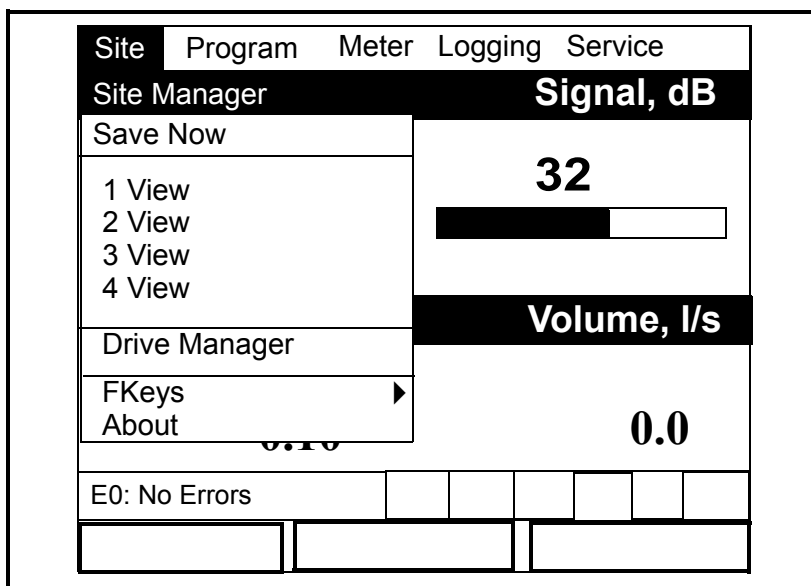

Figure 4-1: The Site Menu
2. With the *Site Menu* highlighted, press [ENTER] and a screen similar to Figure 4-1 below appears.
- From the *Site Menu* (see Figure 4-1 on page 4-1), scroll to the *Save Now* option and press [ENTER]. Or,